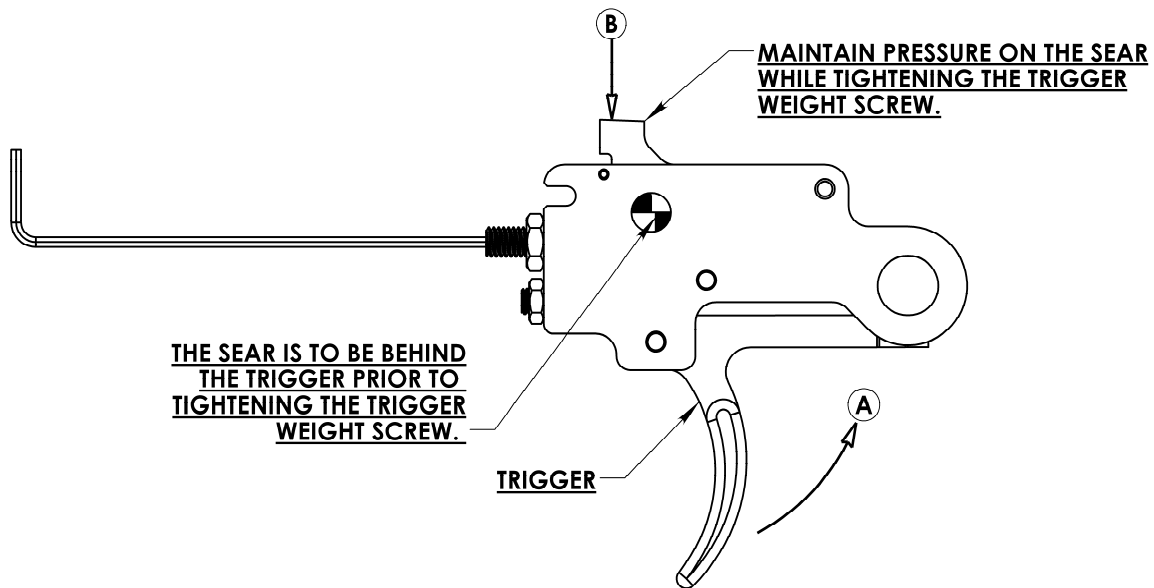

Figure 27. Returning the trigger weight to the factory setting.
2. Pull the trigger and depress the sear. (Figure 27.) turn the trigger weight screw clockwise until the plunger is fully compressed in the trigger weight screw. Turn the trigger weight screw counter clockwise ¼ turn and tighten the brass jam nut.